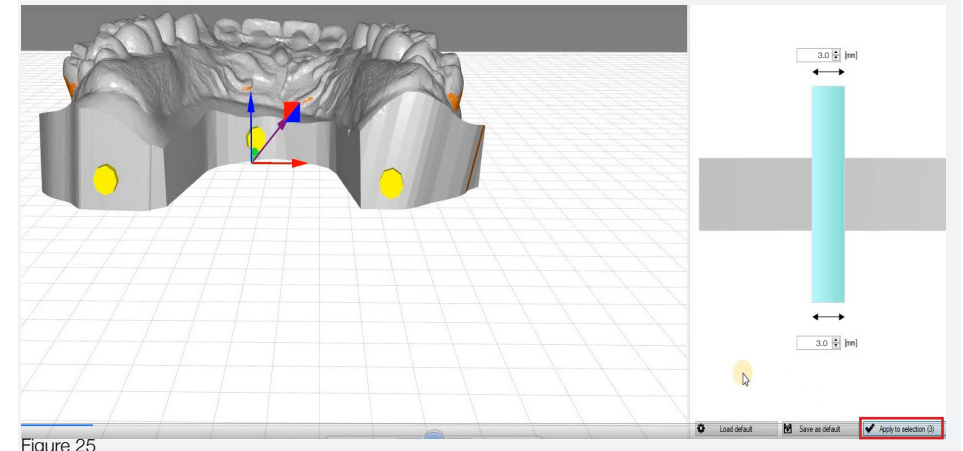

Figure 25
- If the model has a solid floor, position the hole just above the floor (figure 25). Click the cursor to make three holes. Click 'Add flexible drainage hole' again to release.
- Select all three holes, and set the diameter to 3mm and click 'Apply Selection' (figure 25).